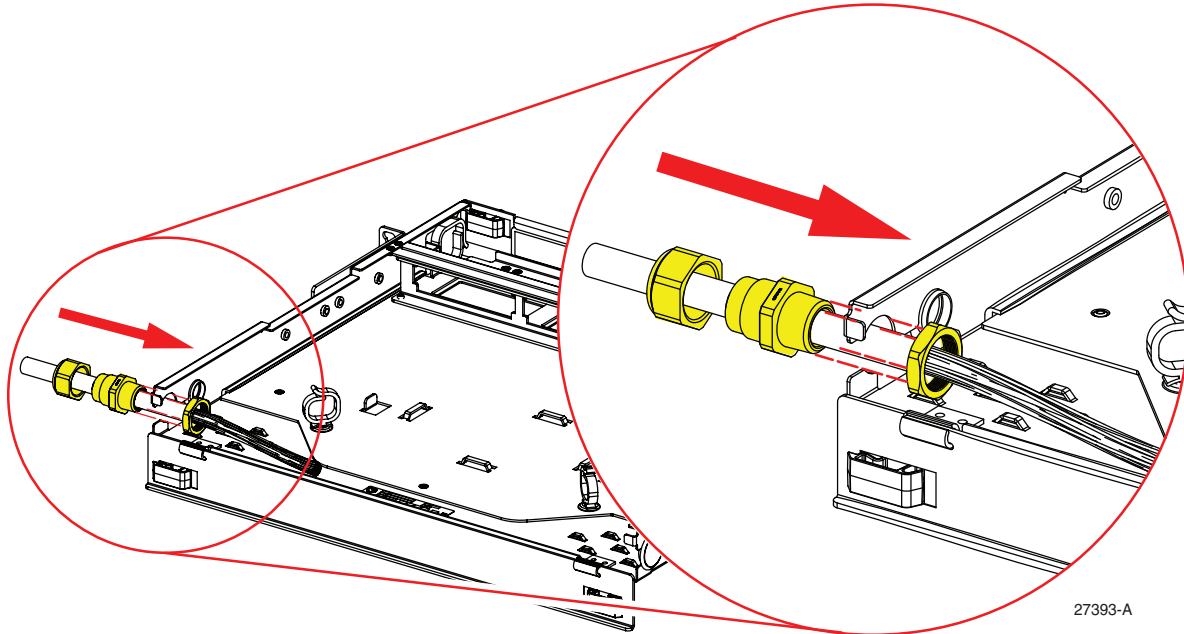

Figure 15. Installing Cable Gland (Standard 1/2-inch Cable Gland, Provided)
2. Secure the cable and cable gland to the panel as shown in Figure 15. Route the cable as shown in Figure 16.